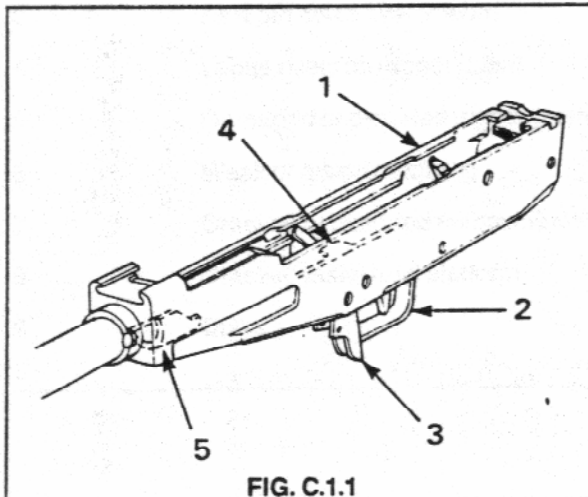

FIG. C.1.1
2. The receiver assembly consists of the following components as illustrated in Fig. C.1.1.